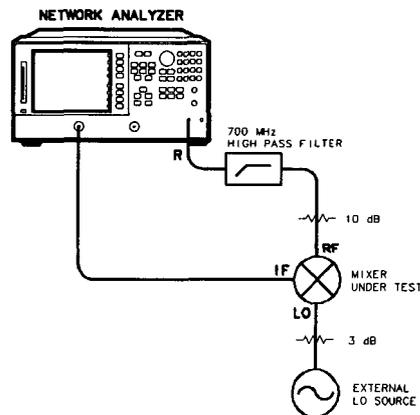

Figure 3-14.
7. Make the connections as shown in Figure 3-14.